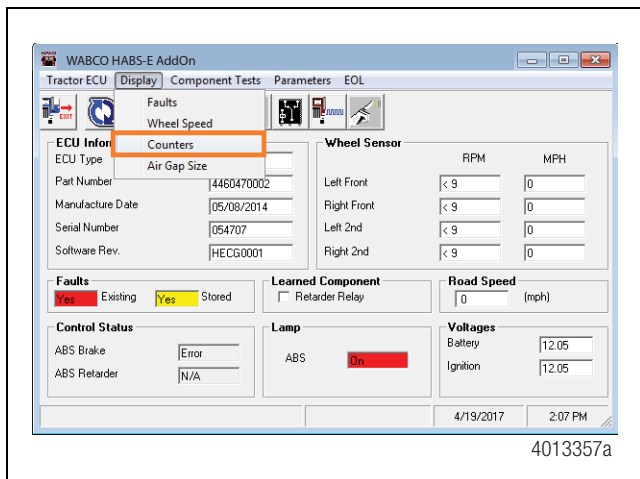

Figure 3.9
- Select **Counters** in the **Display Menu** to show the Pump Motor Hours and the Ignition Cycles window. Figure 3.9.